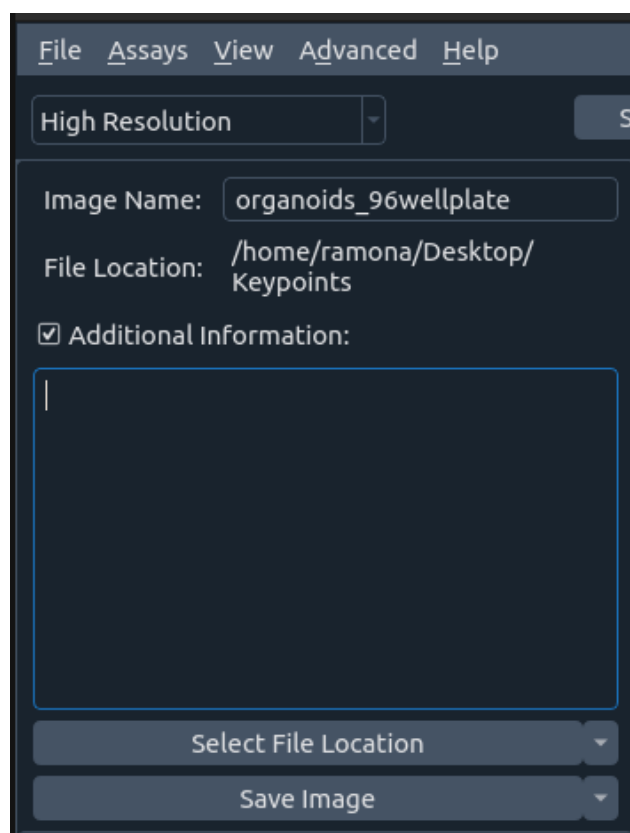

Figure 13: Save settings.
MCAM™ data can be exported or saved from the GUI in several ways. First, high resolution images can be exported using the “Save Image” button in the left panel (Figure 13). First, assign the image a specific name in the “Image Name” section. Next, click the “Select File Location” to assign a directory for the image to be saved in. Lastly, select “Save Image” to capture a screenshot of the section of the plate that is in view. This will save the full resolution MCAM™ data in a single “.nc” file which can be opened for analysis in the Ramona Optics custom MCAM™ Image Viewer or in MathWorks software. “Open Workspace” will open the directory in which the most recently saved images were placed. “.nc” files use the netcdf4 data format. More information on the implementation and usage of this file structure can be found here: <https://unidata.github.io/netcdf4-python/>. Notes can be entered in the “Additional Information” field which are saved as metadata in the image file and displayed in the MCAM™ Viewer with the image.
1. The user defines the prefix of this filename by entering in the “Image Name” field (Figure 13).